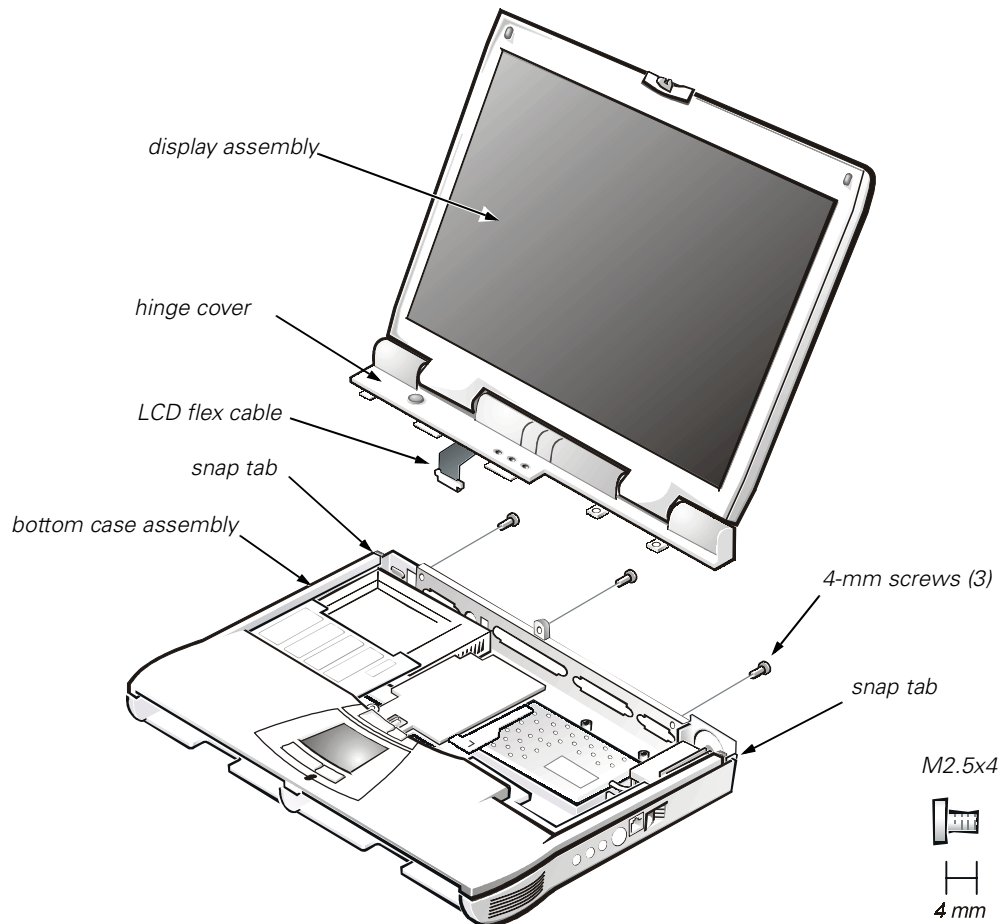

Figure 13. Display Assembly
3. Close the display and remove the three 4-mm screws, labeled with a "circle D," from the back of the computer (see Figure 13).
5. Lift the display assembly from the bottom case assembly. Pry the hinge cover loose at the seam from the snap tabs on the bottom assembly (see Figure 13).